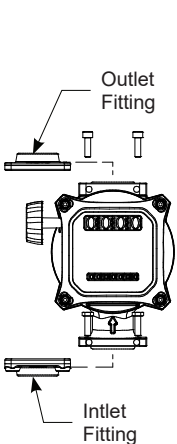

Figure 4a
1. Using a 5mm hex wrench and 10mm open-end wrench, remove inlet and outlet fitting. They will not be used in the modular connection (see Figure 4a).